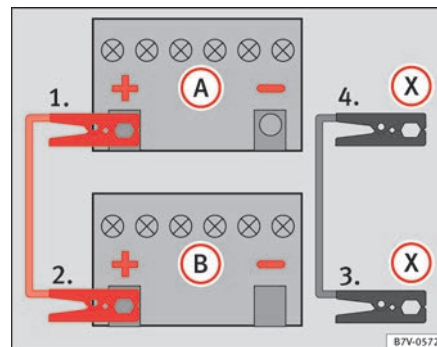

Fig. 217 Jump lead connection diagram when the assistance vehicle has a Start-Stop system: flat battery (A) and battery supplying current (B).
- For vehicles **with Start-Stop system**: Connect one end of the *black* (X) jump lead to a suitable ground connection, a solid piece of metal in the engine block, or to the engine block ⇒ fig. 217.
- Connect the other end of the *black* jump lead (X) to a solid metal component connected to the engine block, or onto the engine block itself of the vehicle with the flat battery however, connect it as far away as possible from the battery (A) ⇒ ⚠.